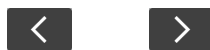

Figure 43 - Left and Right Arrow Buttons
3. Press and hold an arrow button to move the axis (**Figure 43**).